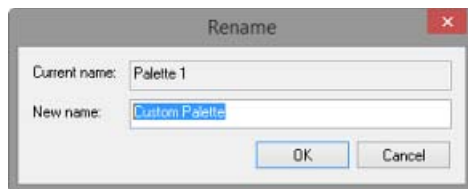

FIG. 425 Rename dialog
3. Click the **Rename** button to open the *Rename* dialog (FIG. 425):.